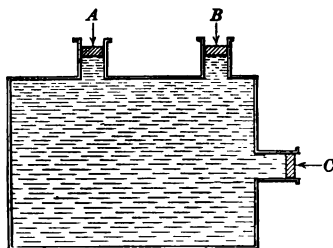

FIG. 44. — Pascal's principle.
*two equal pistons A and B, as in figure 44, the water would press equally hard on each piston. It is also evident that if a third equal piston were placed in the side of the box, as at C, the water would press sideways on it with an equal force.\* In short, if a liquid is pressing against any square inch with a certain force, it is pressing equally hard against every square inch of everything it touches.*